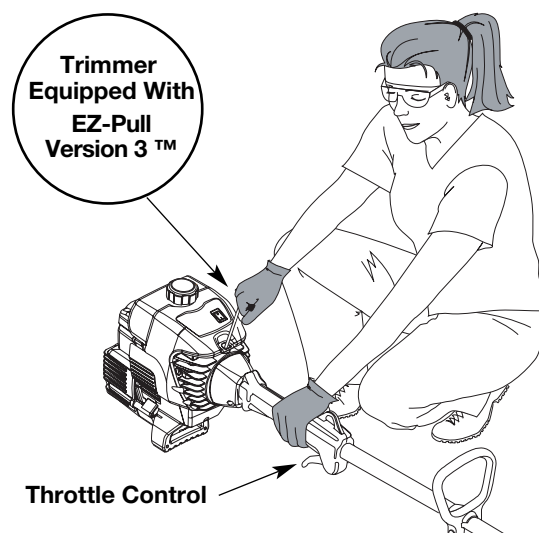

Fig. 8
WARNING: Avoid accidental starting. Make sure you are in the starting position when pulling the starter rope (Fig. 8). To avoid serious injury, the operator and unit must be in a stable position while starting.
5. Crouch in the starting position and **do not squeeze the throttle control** (Fig. 8). Pull the starter rope out with a **controlled and steady motion** until the engine attempts to start. Repeat until the engine starts.